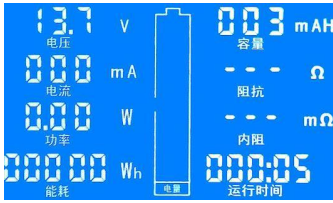
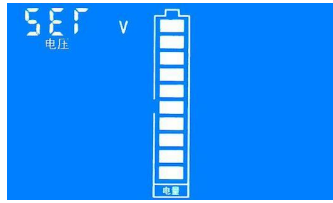

Figure 1: the normal display interface
Figure 2: the voltage setting interface
Step 1: In the normal display interface (like fig. 1), long press the button until the LCD screen display the interface like fig. 2, then release the button
Step 1: In the normal display interface, long press the button until the LCD shows the interface of Figure 2, then release the button, short press the button again switch to the interface to Figure 7, it indicates that this state is the current range setting state.
Step 1: In the normal display interface, long press the button until the LCD shows the interface of Figure 2, then release the button, short press the button again switch to the interface to Figure 9, it indicates that this state is the clearing energy setting state.
Step 1: In the normal display interface, long press the button until the LCD shows the interface of Figure 2, then release the button, short press the button again switch to the interface to Figure 10, it indicates that this state is the clearing capacity setting state.
Step 1: In the normal display interface, long press the button until the LCD shows the interface of Figure 2, then release the button, short press the button again switch to the interface to Figure 11, it indicates that this state is the clearing running time setting state.